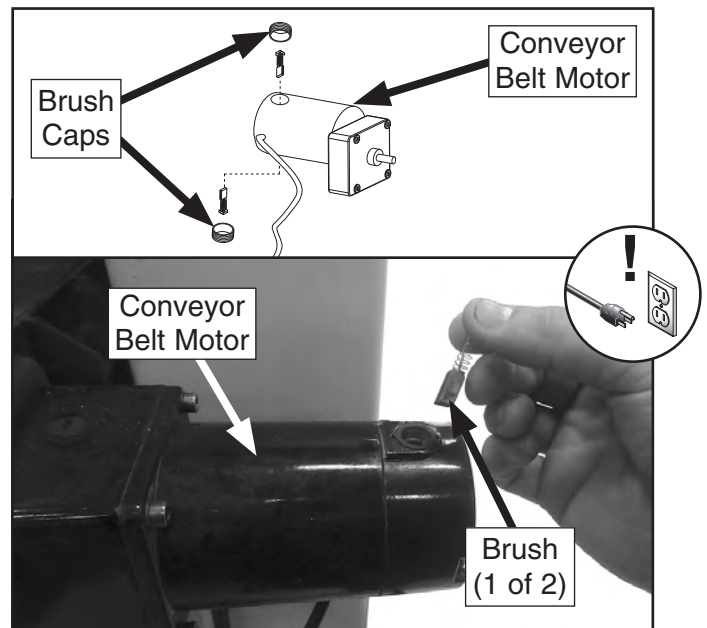

Figure 50. Location of motor cover cap screws.
2. Remove brush caps and worn brushes (see **Figure 50**) from conveyor belt motor.